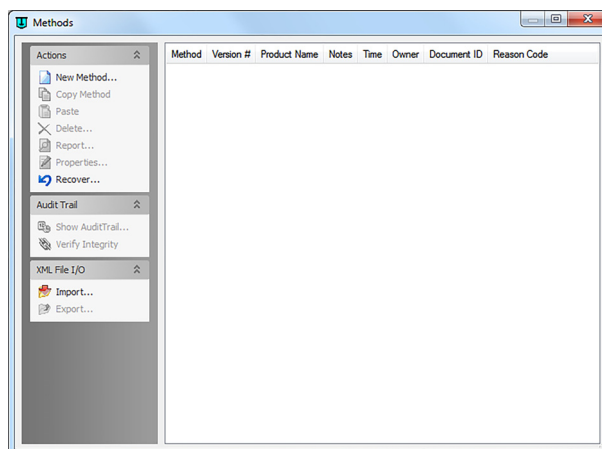

Figure 16. Methods Screen
- 1 From the navigation bar, click **Editor**. The Methods screen displays (see **Figure 16**, “Methods Screen,” on page 61).